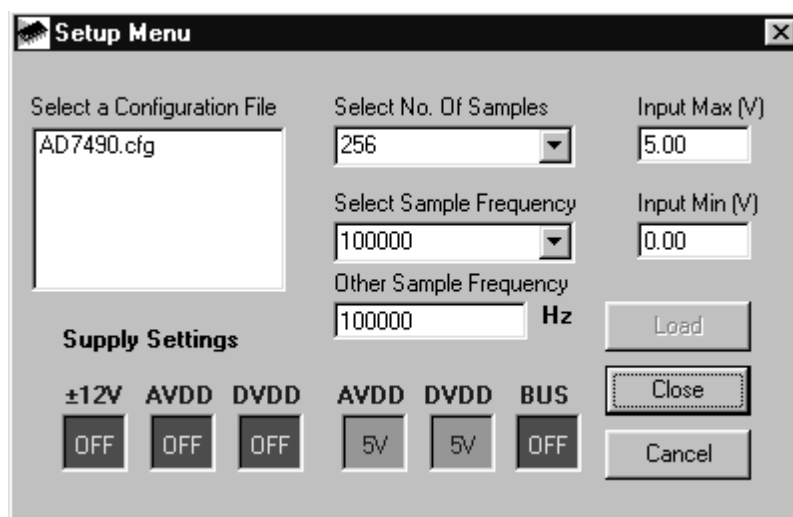

Figure 3. The Setup Screen
The Setup Screen is responsible for allowing the user to load the AD7490 configuration file for the evaluation board. The configuration file will give the software detailed information about the AD7490 evaluation board and part connected to the Evaluation Board Controller such as number of bits, maximum sampling rate, power supply requirements etc. The AD7490 configuration file also tells the software the name of the DSP program file which it should download to the Evaluation Board Controller. These files are supplied by Analog Devices with the evaluation board. Figure 3 shows the Setup Screen.
**Setup Menu:** Selecting this option displays the Setup Screen as shown in Figure 3.